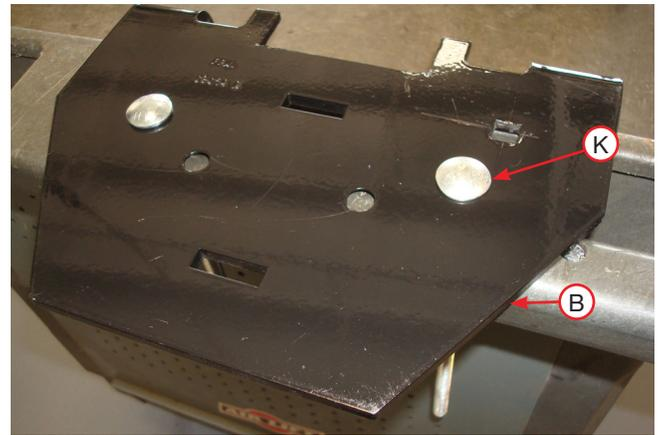

Fig. 16
- Insert two 3/8"-16 x 10" carriage bolts (K) through the square holes in the lower bracket main plate (B) (Fig. 16).